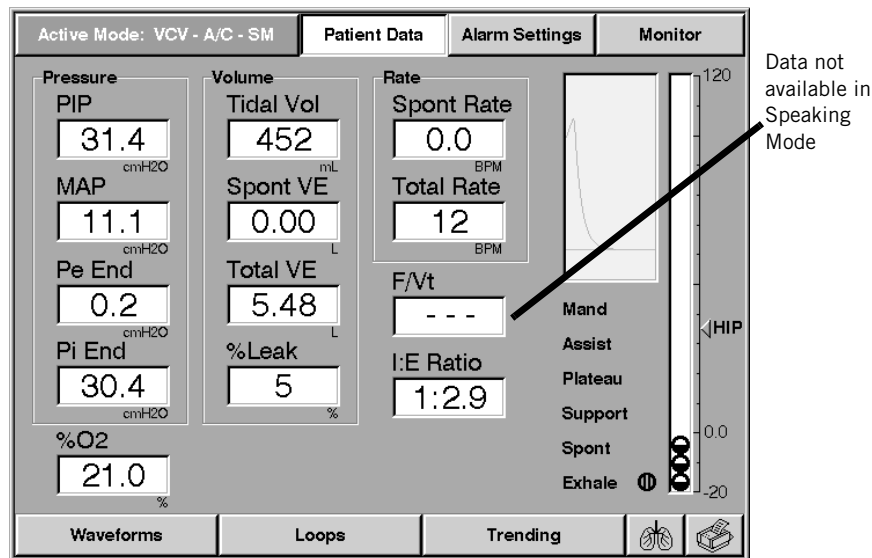

Figure 13-66: Active Mode: Patient Data Screen
1. Press the **Patient Data** button at the top of the settings screen (see Figure 13-66).